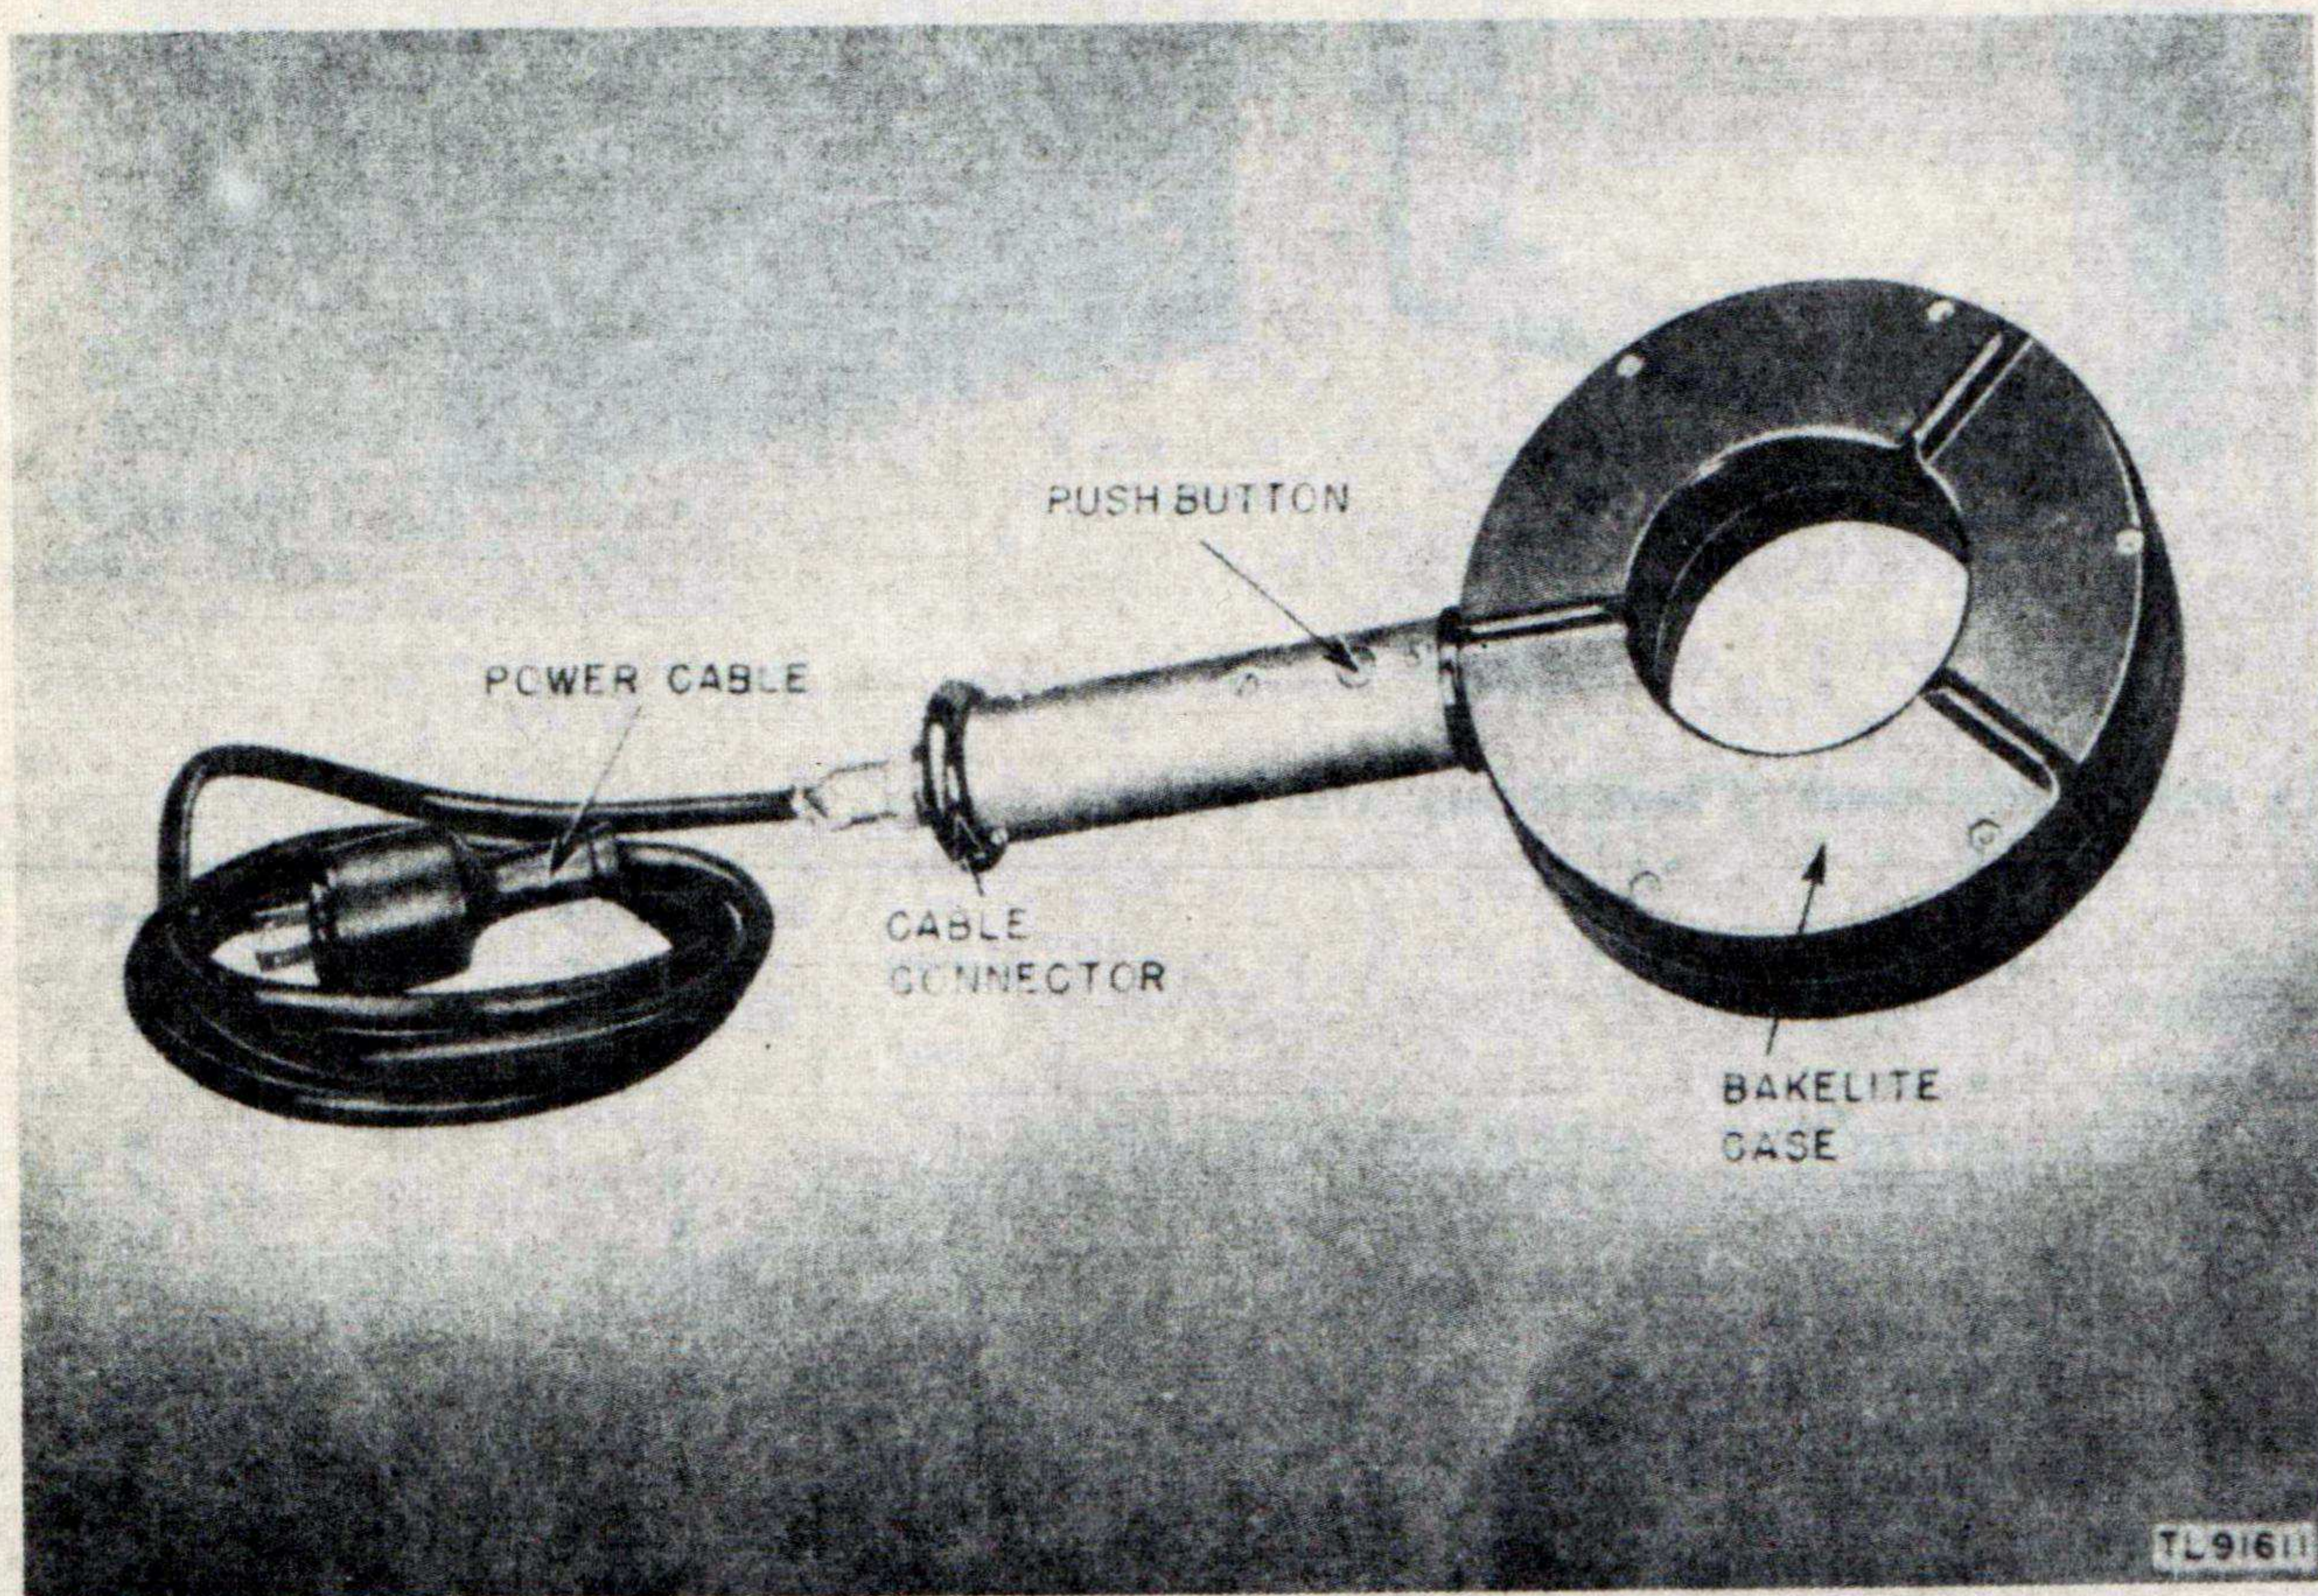

Figure 9. Demagnetizing unit.
d. The demagnetizing coil (fig. 9) which accompanies the magnet charger is inclosed in a brown, molded-bakelite case with a metal handle. A push button for actuating the coil is located in the handle. A cable connector is located in the end of the handle to accommodate the power-supply cable.